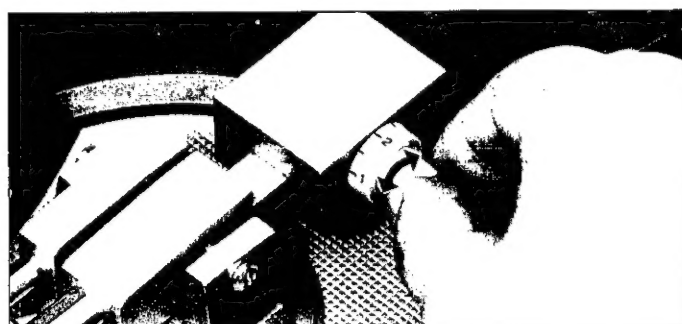

Figure 11
3. Rotate the tracking force adjustment knob till perfect balance is achieved. When the tonearm is perfectly balanced it will keep its horizontal position when you remove your hand (See Figure 11).